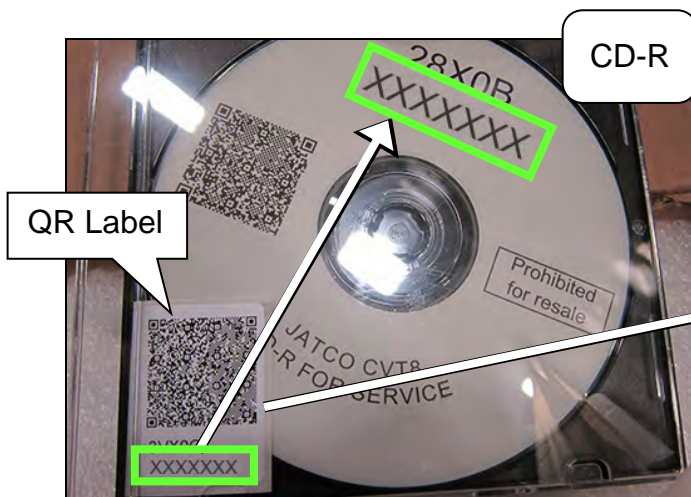
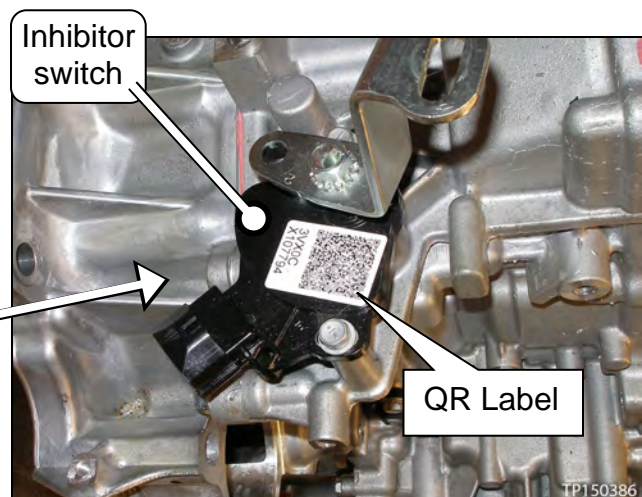

Figure 14J
Figure 15J
15. Attach the QR label (Figure 14J) with the new calibration data onto the transmission range switch (inhibitor switch Figure 15J).
- Confirm that the QR label and the CD-R part numbers are the same (Figure 14J).